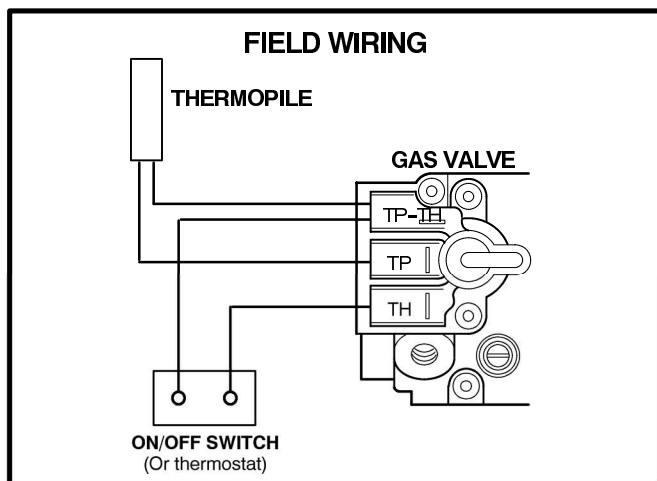

FIGURE 7
- 6 – Mount field-provided handy box in convenient location adjacent to or in lower compartment of appliance. (Lower compartment has pre-drilled holes in the front lip.) Install field provided ON/OFF switch (or thermostat for wall furnace) and faceplate and wire per diagram in figure 7. Use two conductor wire for the thermostat/wall switch – for 18 ga. max. length 20 ft, for 14 ga. max. length 50ft.